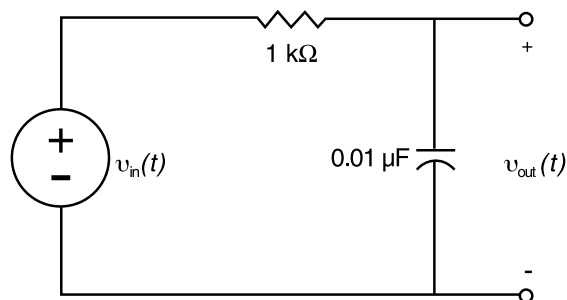

Figure 1
The circuit of Fig. 1 is a first-order RC circuit with the output $v_{out}(t)$ taken across the capacitor. The input is the unit step function $v_{in}(t) = u(t)$.
- Determine the circuit voltage transfer function $T_v(s)$, the step response transform $G(s)$ and the output waveform $g(t)$ for $v_{out}(t)$ as indicated in Fig. 1.
- Enter the circuit of Fig. 1 into a CCA program and determine the step response by performing a transient analysis. Plot the results and tape the output into your lab journal.
- a. Connect the circuit of Fig. 1. Set the output of the function generator to produce a square wave, $1 V_{pp}$ and a DC offset of $+0.5 V_{avg}$. You will need to determine an appropriate frequency so that the circuit reaches its final value before the source changes state back to 0 V. The scope should be triggered on the rising edge of the square wave.
The step response for the circuit of Fig. 1 is of the form:
From the sketch of the response waveform drawn in Procedure 1b, determine the values of A , B , and T_c . (the "Exponential Waveforms" experiment provides details on determining the time constant from a sketch of the circuit response.) Use these experimental values for A , B and T_c and Eq. 5 to determine the realized transfer function $T_v(s)$ for the circuit of Fig. 1.